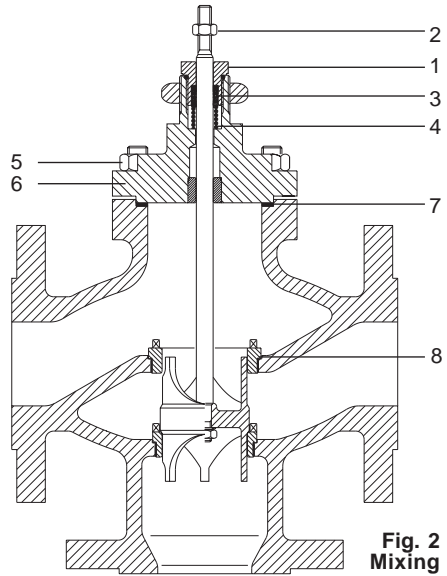

Fig. 2
Remove all packing (3) with spring (4) and clean the packing compartment. Clean the valve spindle and inspect for damage. If damaged, replace it. Rough surfaces will wear the sealing lips of the chevron seals enormously and will cause premature failure of the packing unit. Insert new packing, referring to Fig. 2 or 3. The PTFE chevron seals should be lubricated before inserting with a small amount of silicone grease. The sealing lips must face against the pressure direction. Slide gland nut over the spindle and tighten carefully.
Isolate control valve and remove all pressure. Drive the actuator to the midposition. Referring to the actuator Installation and Maintenance Instructions, remove the actuator from the valve. Referring to Fig. 2 or 3, loosen gland nut (1). Loosen hexagonal nuts (5) and remove bonnet (6).
1.2.1 Mixing valves (Fig. 2)